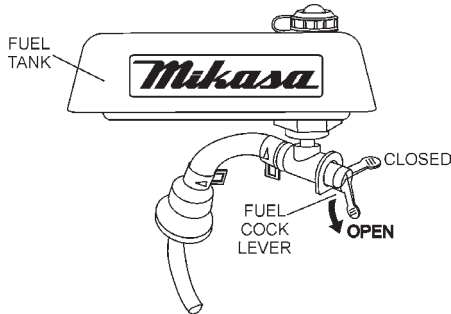

Figure 10. Fuel ShutOff Valve (Open)
1. Open the fuel shut-off valve by moving the fuel cock lever to the open position (Figure 10).